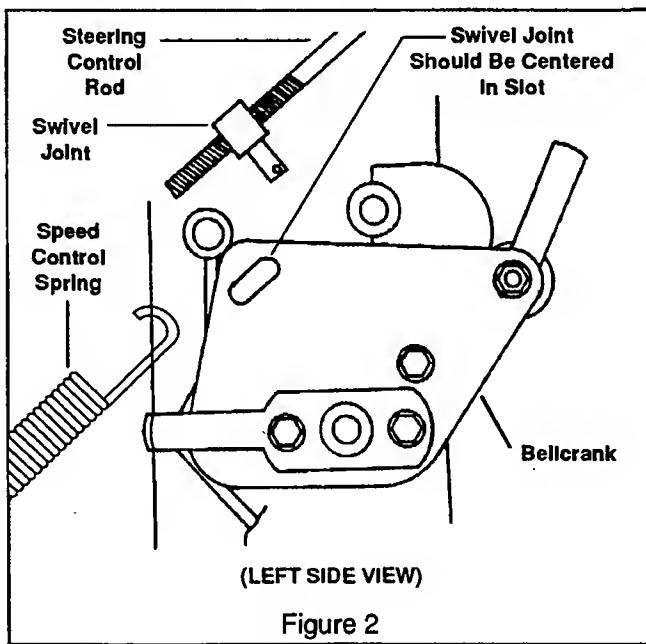
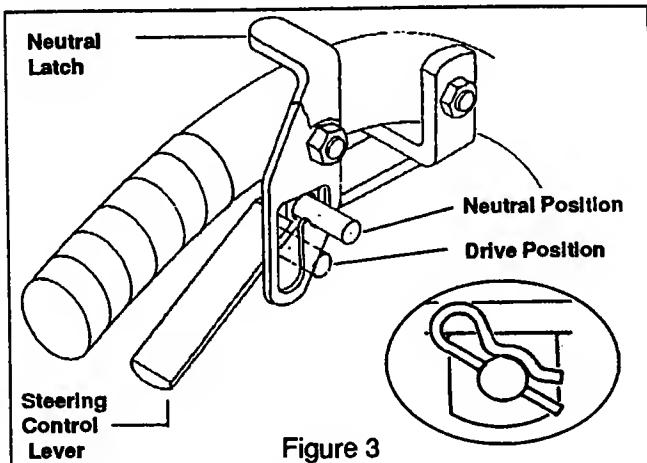

Figure 2
Figure 3
Thread rod into swivel joint. Adjust length of rod so that with the handle neutral latch in the neutral position, (See figure 3) the swivel joint is centered in the slot on the bellcrank (See figure 2). This is easily confirmed by wiggling the handle control lever up and down. The bellcrank should not move if the swivel joint is centered in the slot. This is a very, very important adjustment for safe operation!
6. Remove swivel joint from slot (making sure swivel joint does not turn on rod). Connect speed control spring (See figure 2). Reposition swivel joint into slot and secure with hair pin.